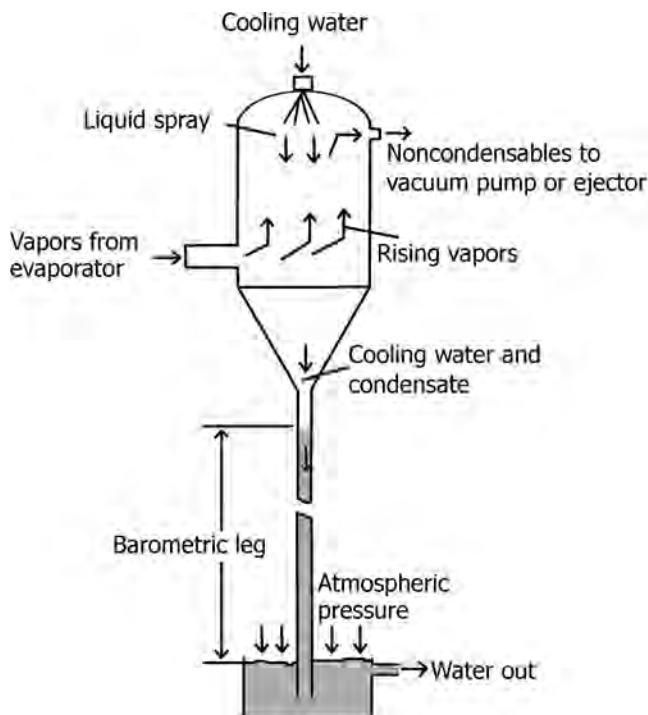

FIGURE 11.27 Barometric condenser.
- Barometric condenser works on the principle of a barometer with the barometric leg made up of a column of water. Figure 11.27 illustrates its working.